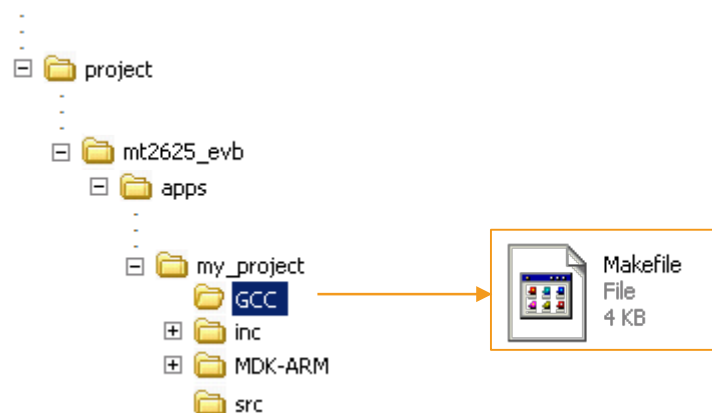

Figure 24. Modify the Makefile under the GCC folder of my_project
- 2) Modify the following settings defined in the `<sdk_root>\project\mt2625_evb\apps\my_project\GCC\Makefile` under the GCC folder (see Figure 24) `my_project`, as shown below: